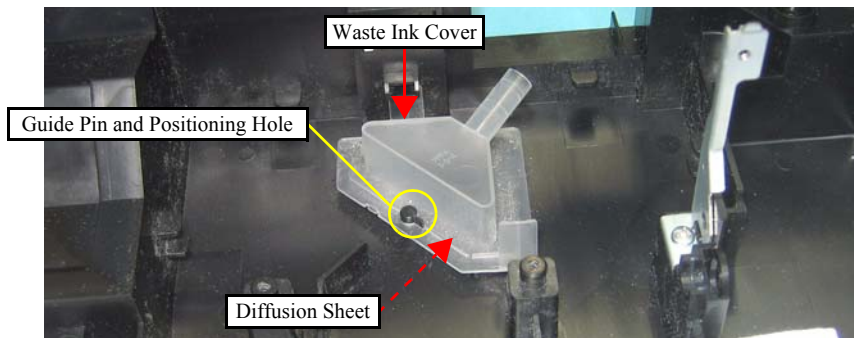

Figure 4-102. Removing the Waste Ink Cover and Diffusion Sheet
- When installing the Waste Ink Cover, be sure to align the guide pin (x1) of the Base Frame with the positioning hole (x1) of the Waste Ink Cover as shown in Figure 4-102. Make sure to confirm the cover is properly secured on the Diffusion Sheet without any gap.